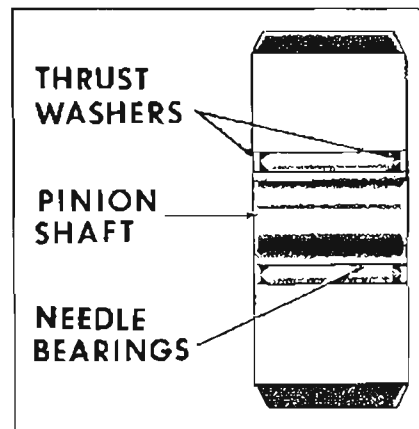
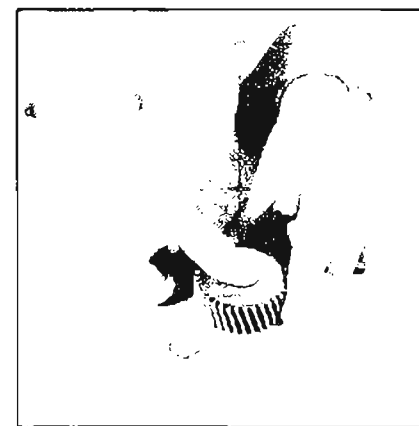

Figure 5-270
Figure 5-271
10. Install twenty (20) needle bearings, and one thrust washer in the pinion gear. See Figure 5-270. With a twisting motion, lock the needle rollers in place. See Figure 5-271.